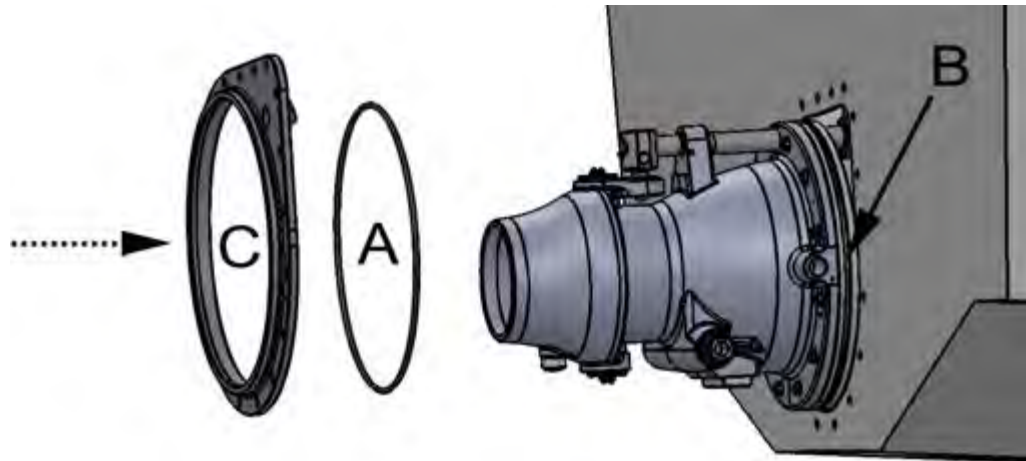

Figure 15. Seal ring
4. Attach the O-ring seal (figure 15, point A) into the groove in the rim of the transom-side installation flange (figure 15, point B).